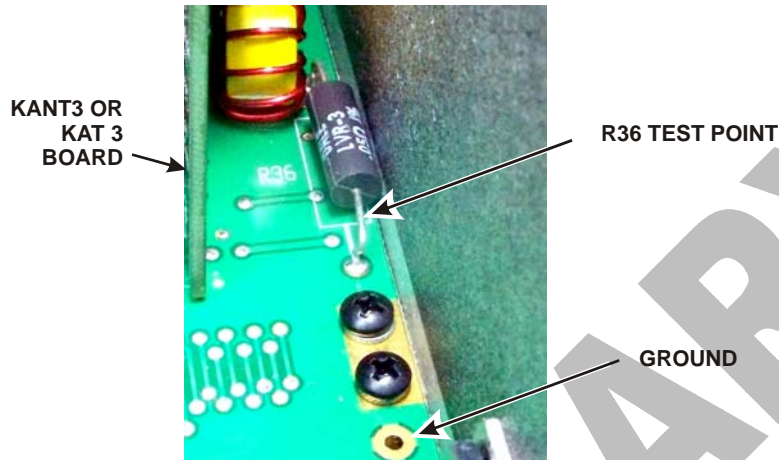

Figure 48. R36 Test Point.
- Use your DMM to measure the resistance between the end of R36 and ground (see Figure 48). The resistance shall be greater than 150 ohms.